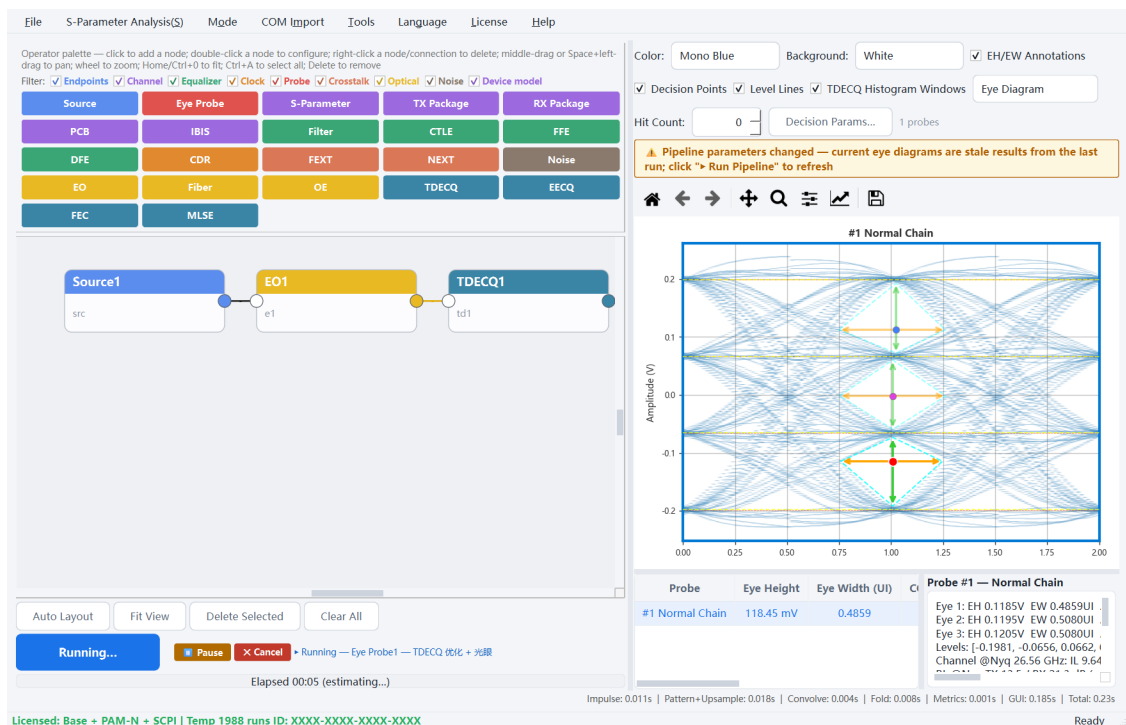

Fig. 8-2 A run in flight: progress bar + Pause / Cancel
Step 3 Long runs (optical / TDECQ / FEC) take a while — while a run is in flight, a **progress bar** below the canvas shows percent, elapsed and estimated remaining time, the status line names the current stage, and the **"■ Pause"** / **"X Cancel"** buttons freeze or stop the run at any time (Fig. 8-2). Cancelling does not consume a trial run; the previous results stay on screen.